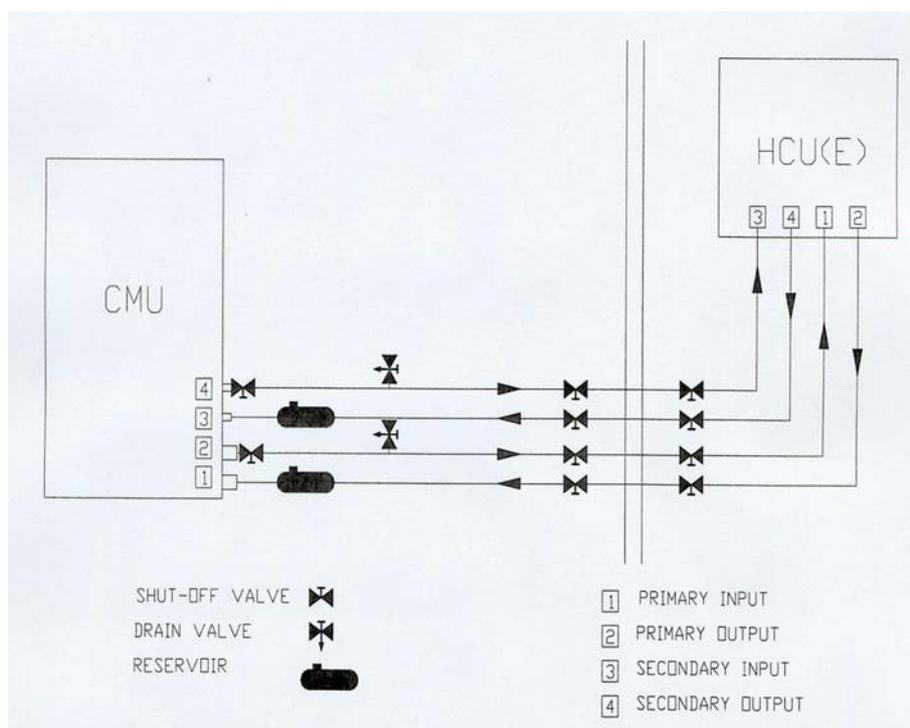

Fig 2.3 Block diagram
- b. A container should be installed below the HCU Condensate Drain (5) whenever it is mounted over an area that moisture will damage.
- a. Bolt HCU to bulkhead. Plumb HCU per block diagram (see Fig 2.3).